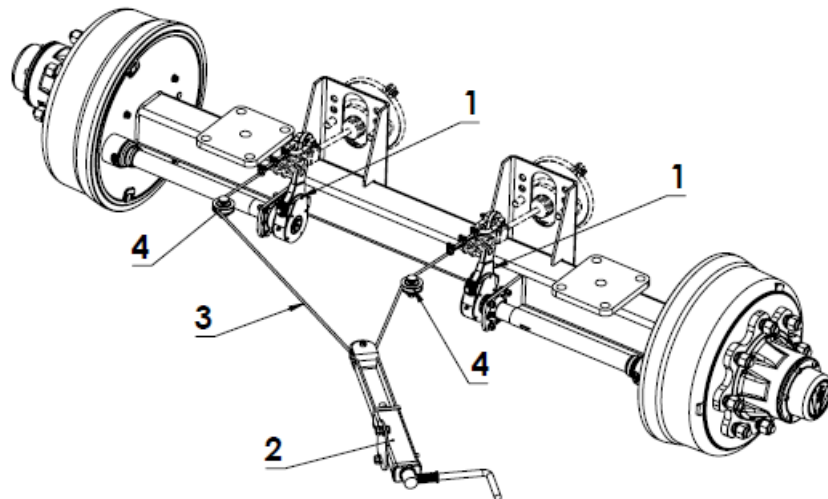

Figure 4.13 Parking brake
The parking brake is used to immobilize the trailer when stationary. The brake's crank mechanism (fig. 4.13, item 2) is fastened to the bracket near the left stringer of the lower frame. The steel cord (3), guided by rollers (4), connects the levers of the front driving axle spreader (1) to the crank mechanism. Tightening the string (rotation of the crank mechanism in the direction of the clock's rotation) causes a shift of the lever spreader that, when parting the brake linkage, immobilize the trailer.